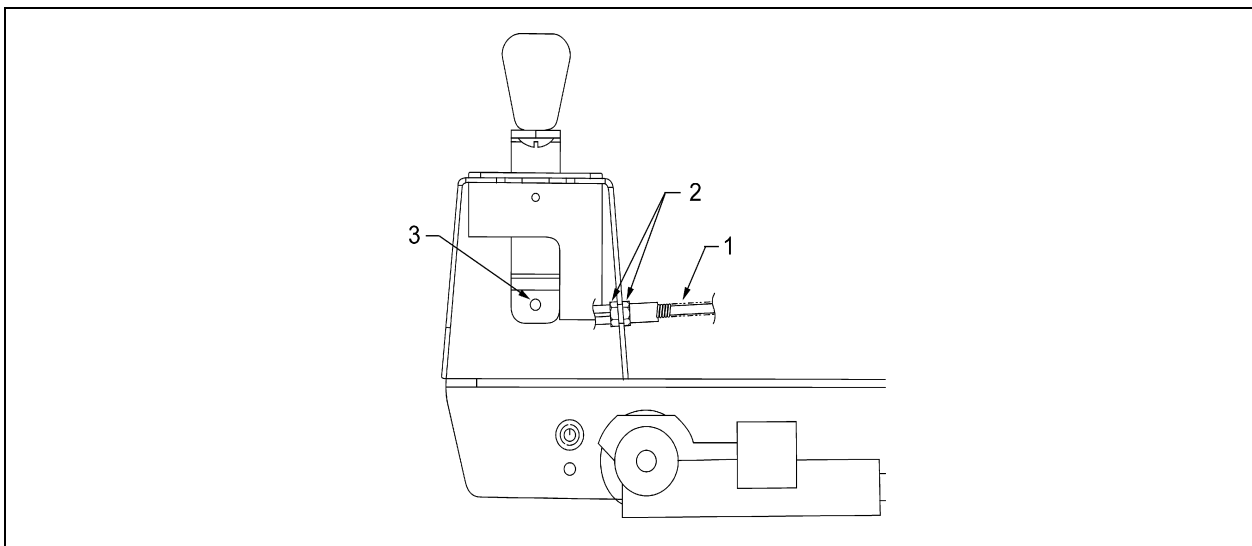

Figure 8: Side view of the new operating knob. (1) Cable; (2) Nuts; (3) Hole in which a screw will hold the cable.
- Route the cable's threaded end into the 13 mm (0.5 in) diameter hole made previously and fix it to the 7 mm (¼ in) diameter hole using two ¼-28 (#500692) nuts (figure 8, item 2);
- Secure the cable around a #8 x 3/8 screw mounted on the lever of the operating knob (figure 8, item 3);
Note: The cable needs to be slightly tightened to ensure the good working order of the mechanism. Adjust the cable tightness using the nuts (figure 8, item 2) on the cable's threaded end.